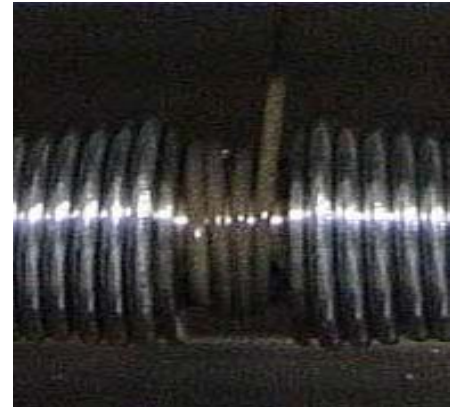

FIGURE 7
8. Spool tensioning cable on so that the cable lays neatly from left to right, removing slack from cable.(see figure 7)